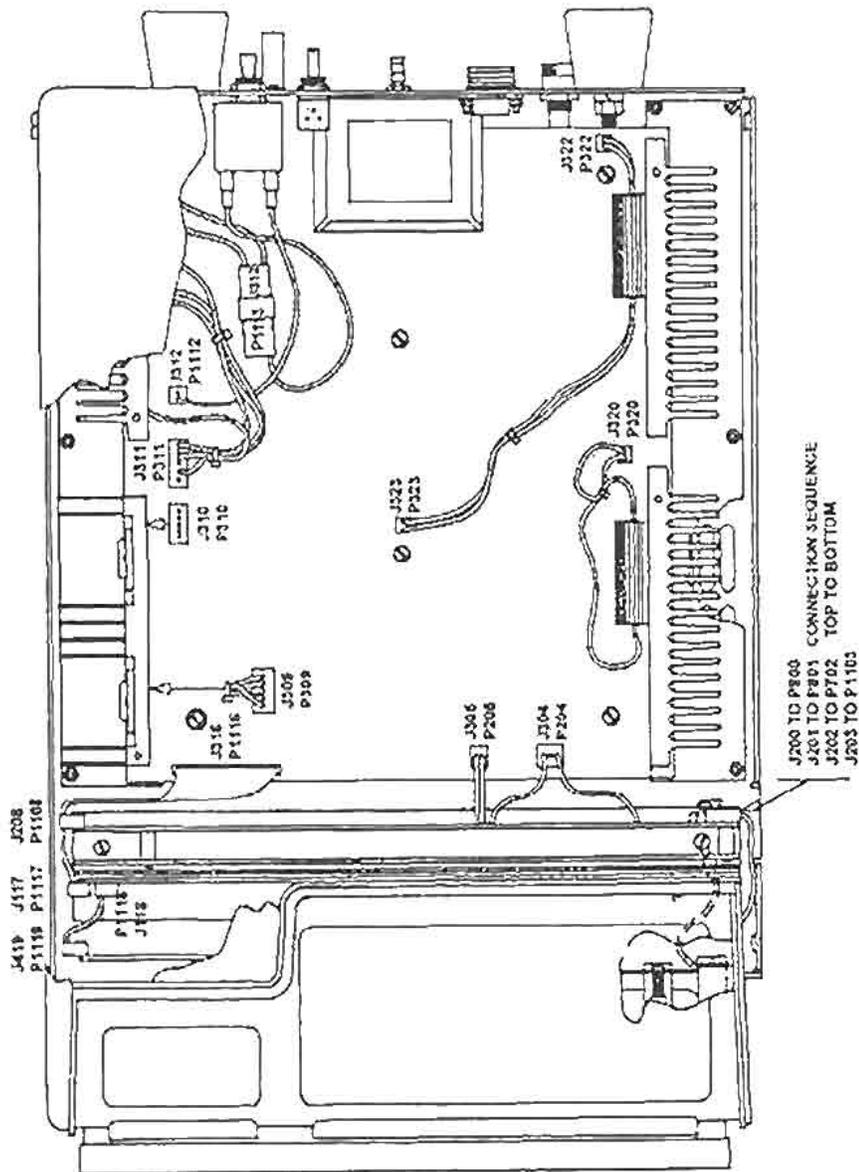
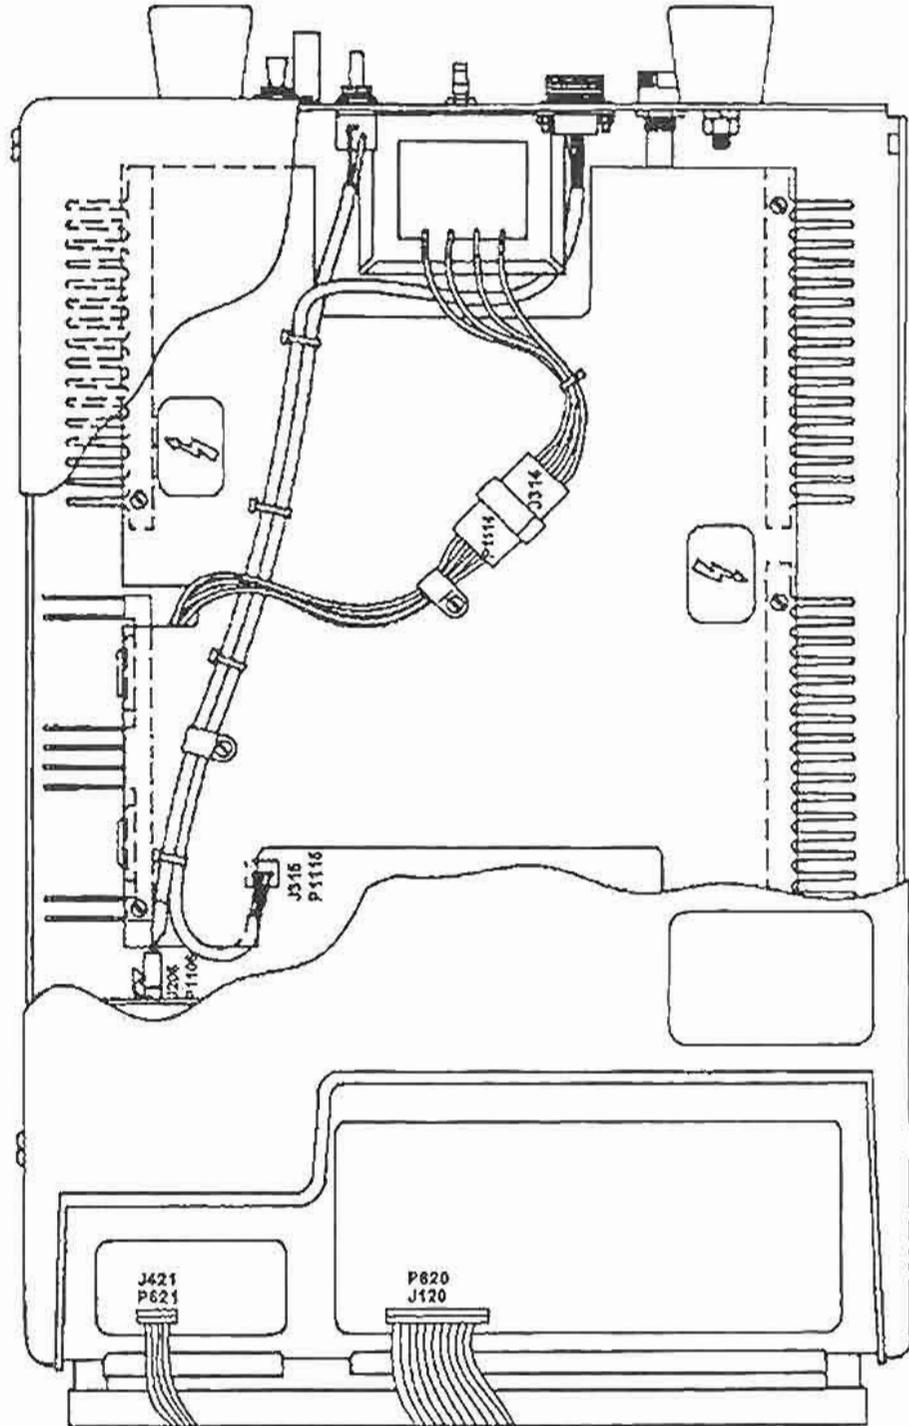

Figure 3-30. Connectors - view 1.
Figure 3-31. Connectors - view 2.
- (3) Remove the top cover by gently rocking it back and forth while simultaneously pulling it upward. Set it aside.
- (4) Disconnect the following electronic plugs (fig 3-30 and fig 3-31).
- (5) Remove the two slotted screws fastening the interface assembly to the base assembly. Set them aside.
(1) Position the interface PCB and RF shield together.
(2) Reinstall the five nylon slotted screws to fasten the PCB to the RF shield.
(3) Position the interface assembly mounting holes to align with the base assembly mounting holes.
(4) Insert one of the slotted screws into the crimped terminal lug of the green/yellow electrical ground wire and then insert the screw through the mounting hole. Reinstall the nut and then reinstall the second screw and nut to fasten the interface assembly to the base assembly.
(5) Reconnect the following electronic plugs. (Refer back to figures 3-30 and 3-31.)
(1) Verify that the electrical power toggle switch, located on the back panel of the ES apparatus, is at the "O" symbol. Also verify that the electrical power cord is disconnected from the electrical receptacle.
(2) Remove the four slotted screws and lockwashers fastening the top cover of the ES apparatus. Set them aside.
(3) Remove the top cover by gently rocking it back and forth while simultaneously pulling it upward. Set it aside.
(4) Remove the slotted screws fastening the two plastic cable clamps to the plastic electronics cover.
(5) Remove the four slotted screws fastening the plastic electronics cover to the heat sinks. Set them aside.
(6) Pull the plastic electronics cover out to the side below the cable assemblies. Set it aside.
(7) Disconnect the following electronic plugs. (Refer back to figures 3-30 and 3-31.)
(3) Reconnect the following electronic plugs (Refer back to figures 3-30 and 3-31).
(4) Position the plastic electronics cover beneath the cable assemblies and align its mounting holes with the mounting screw holes in the heat sinks.